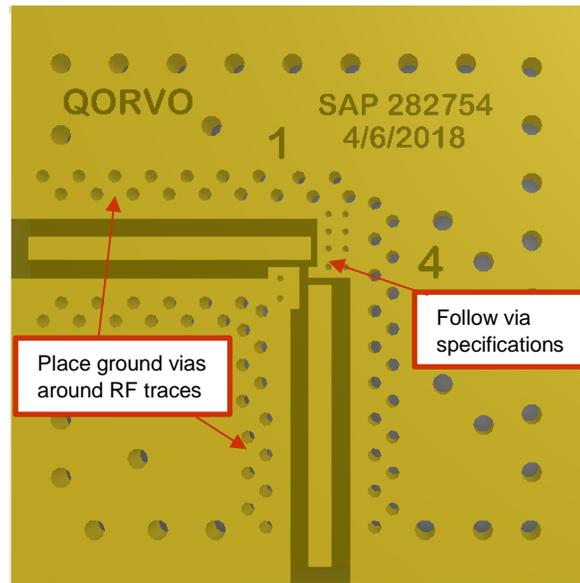

Figure 4a. Recommended PCB layout Considerations.
4. We do not recommend connecting ground pins 2 and 5 with a common plane or trace between them due to some manufacturing limitations. **Figure 4a** illustrates the recommended configuration.